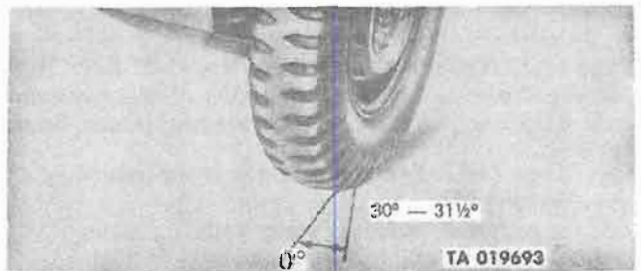

Figure 10-64. Front wheel swing arc.
Figure 10-64 is superseded as follows:
(3) *Check front wheel swing arc.* Swing front wheels through arc shown in figure 10-64. Loosen jam nut and adjust left side steering stop bolt (fig. 10-65) to allow specified turning angle (30° - $31\frac{1}{2}^{\circ}$) as shown in figure 10-64. Adjust right side steering stop bolt using same procedure. After adjustments, the vehicle should have a maximum turning radius of 18.5 feet, measured from the centerline of the outside front wheel, when completing full turns right and left.